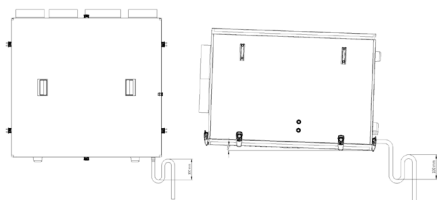

Figure no. 5. Condensate siphon in the KCX+ AHU and declination of the suspended AHU version.
**Attach the siphon directly at the device observing the height dimensions as shown in the Figure no. 5. The siphon can be made of the hose arranged in an appropriate way using special clamps to maintain the hose and recommended dimensions or you can use commercially available siphon (not provided by Klimor).**